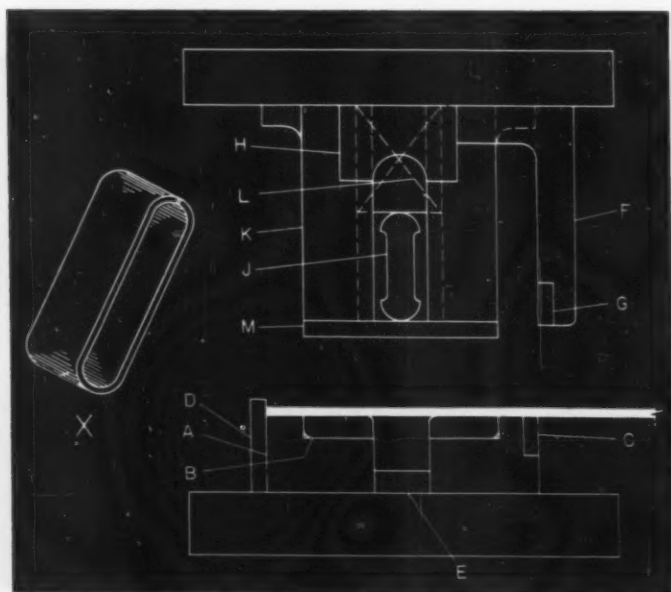

Fig. 1. Work-piece, seen enlarged at (*X*), is fabricated from strip stock in one operation with the die shown. Horn (*J*) is in the fully extended position.
The part shown at *X* in Fig. 1 is made from 0.060-inch thick hot-rolled steel that is first sheared to 1 1/4 inches in width and then fed through the die in 4- to 12-foot lengths. In Fig. 1, the die is illustrated in the open position with the stock in place. The lower member consists of
Methods of work handling and the type and placement of abrasive heads to afford full coverage of designated surfaces fall into a number of patterns. Several of the more conventional systems are illustrated diagrammatically in Fig. 1. In the unit at A, the work-pieces are mounted on a vertical rotary plate. This plate indexes, presenting one part at a time to the moving abrasive-coated belt. Rotational movement is also imparted to each of the work-pieces to assure uniform metal removal.
continuous-flow operation, is designed to blend with individual plant layout and existing production situations. In these systems the parts are usually group-mounted in fixtures that are pulled past fixed polishing heads. One of the most common installations is the straight-line setup illustrated at B in Fig. 1. Here, parts are moved into successive engagement with a line of coated-abrasive heads.
Fig. 1. Installations for automatic or semi-automatic coated-abrasive grinding may conform to one of the several layouts illustrated, depending on individual production requirements. The straight-line setup (B) is one of the most commonly used.
Loading and unloading by one operator is possible with the layout shown at D in Fig. 1. The polishing heads are arranged in opposed pairs along three sides of the rectangular transfer line to permit finishing two faces of the parts simultaneously. As they pass each station, the parts are turned so that all surfaces are exposed to the same abrasive treatment, resulting in a uniform overall finish.